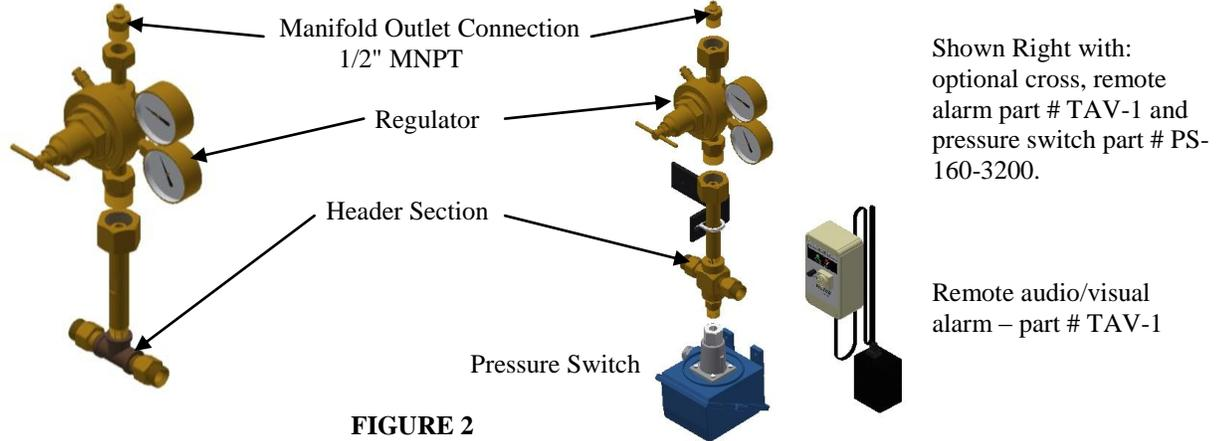

FIGURE 2
1. Assemble the manifold outlet fitting to the regulator outlet (Figure 2).
2. Assemble the headers assembly to the regulator inlet oriented as shown in Figure 2.